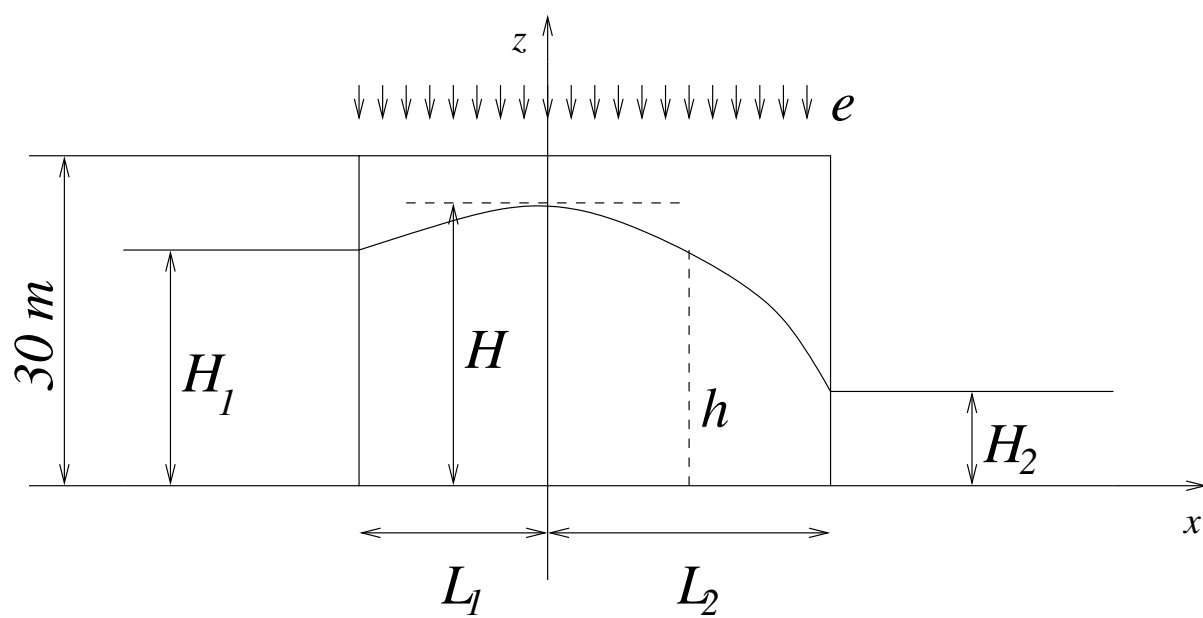

Figure 4: Exercise 5
5. Given the unconfined aquifer of Figure 4, assuming a uniform recharge flux e , calculate: